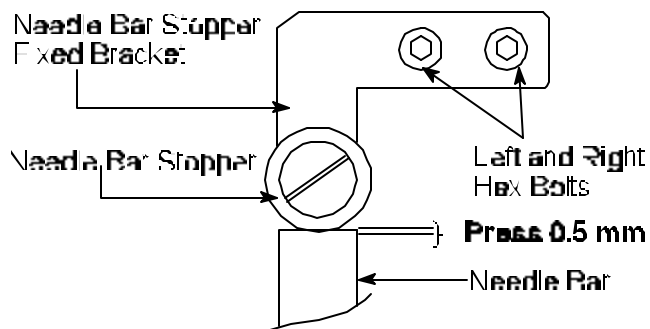

Figure 10
27. Press down on *clear* roller approximately 0.5 mm to top of Needle Bar Assembly then secure hex bolts. See Figure 10.